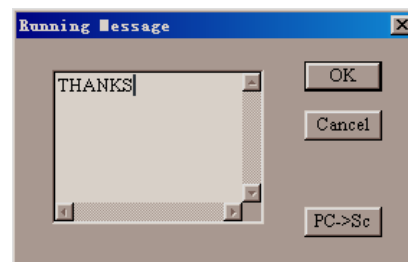

Fig. 6-19
- Here will show the running message dialog box as fig. 6-19.